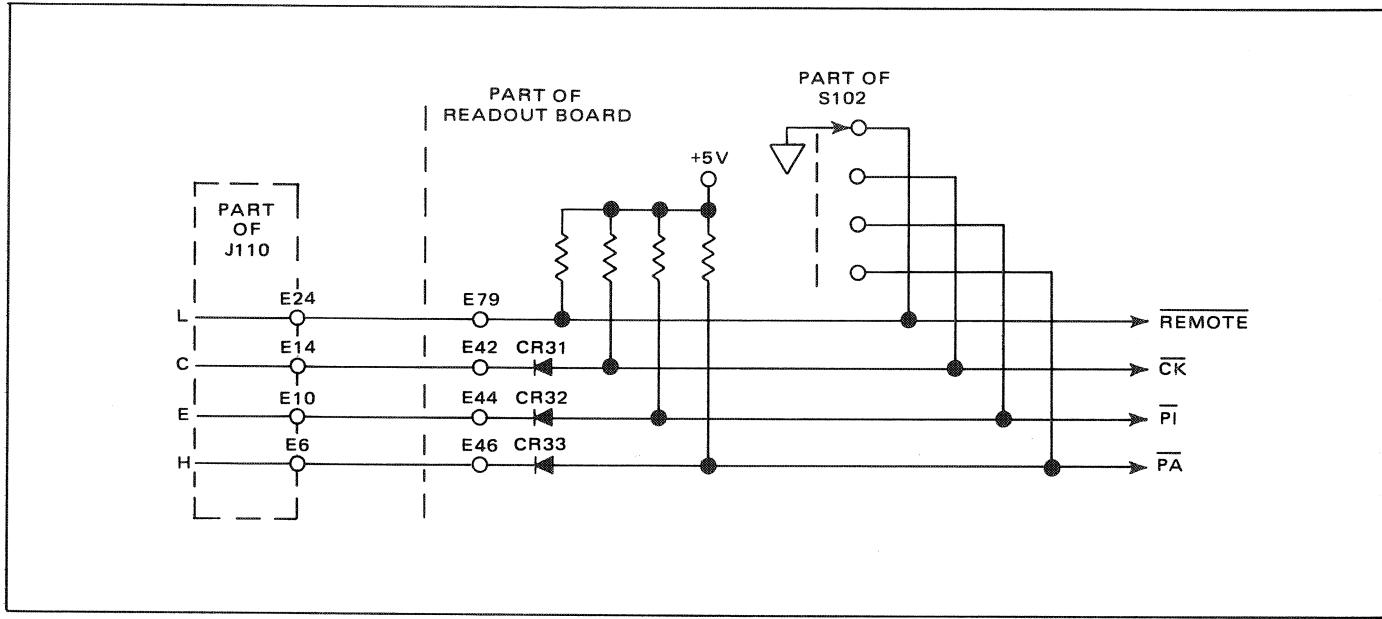

Figure 3.4 - Remote Function Select
3.20 A portion of the remote function control lines and the corresponding front panel function control lines are illustrated in figure 3.4. In all cases except the Remote position, diodes separate the remote input lines from the instrument control lines. The Function switch is shown in the remote position causing the REMOTE line to be at logic 0. Remote lines are energized when they are electrically tied to pin L of J110.